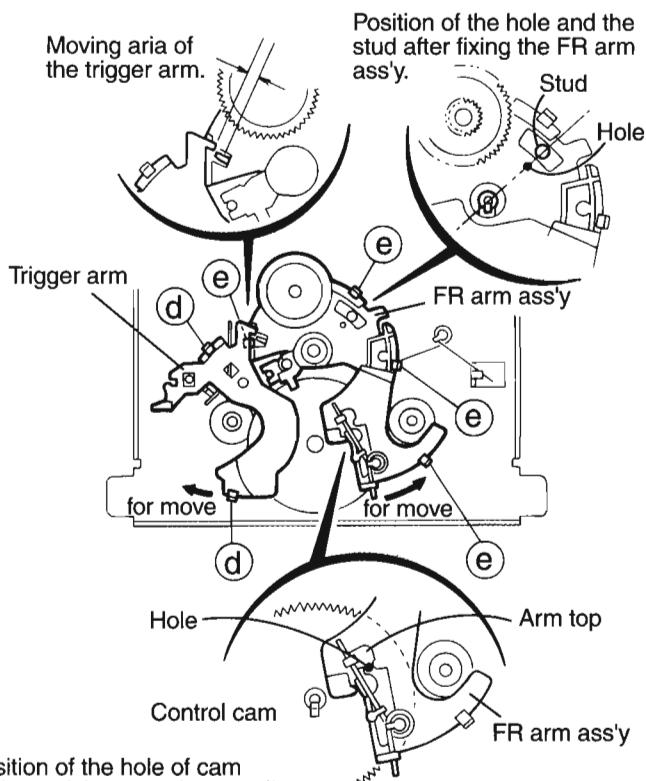

Fig.14
■How to assemble (See Fig.14~19)
- the cam hole and arm edge shown in the figure 14.